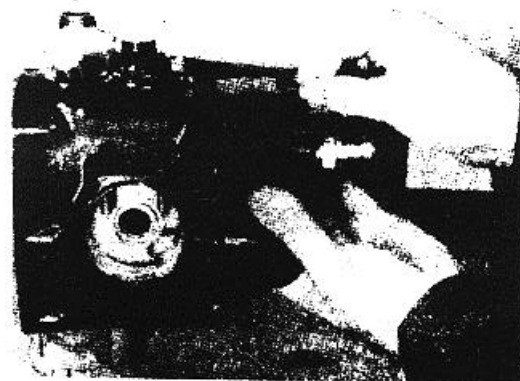

Figure 4-66. Assembling gear pump to fuel pump.
9. Assemble the gear pump and a new gasket to the fuel pump. Fig. 4-66.